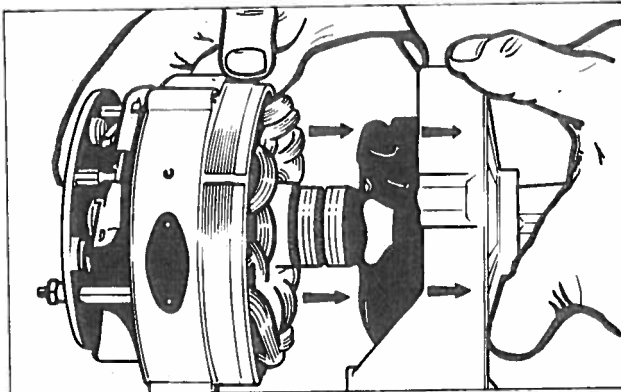

Fig. 49 Removing rotor and drive end frame assembly
3. Release the fastening screws at the drive end frame and carefully withdraw the claw-pole rotor and the drive end frame assembly from the stator Fig. 49.